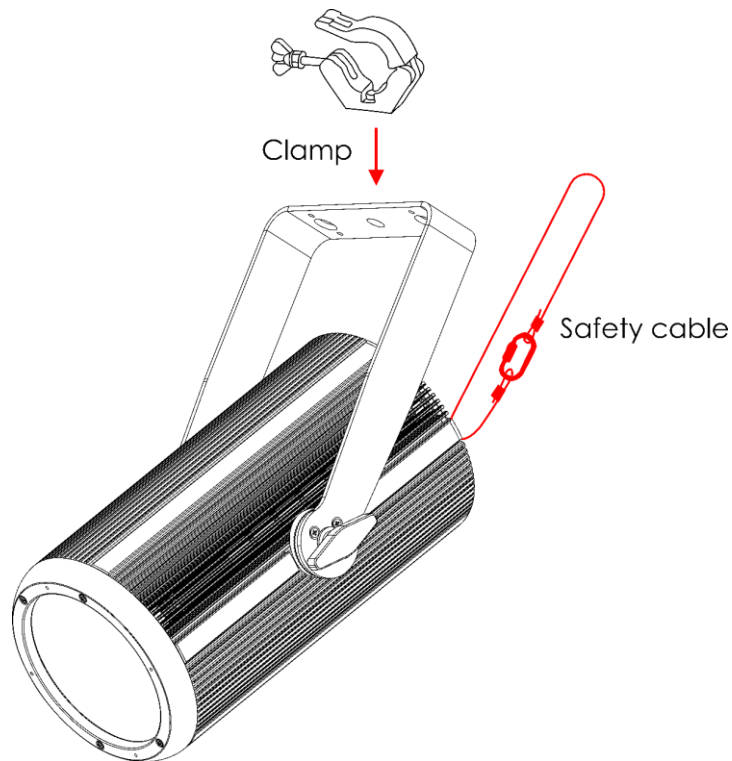

Fig. 07
- 01) Use a clamp to attach the device to the supporting structure, as shown in Fig. 07. Make sure that the device cannot move freely.
- 02) Secure the device with a secondary suspension, for example a safety cable. Make sure that the secondary suspension can hold 10 times the weight of the device. If possible, the secondary suspension should be attached to a supporting structure independent of the primary suspension. Put the safety cable through the **safety eye (05)**, as shown in Fig. 07.